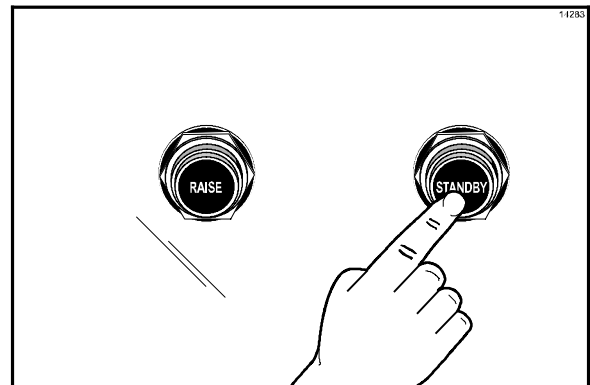

Figure 23
4. Press the Standby button to close the platen. (See Figure 23.)